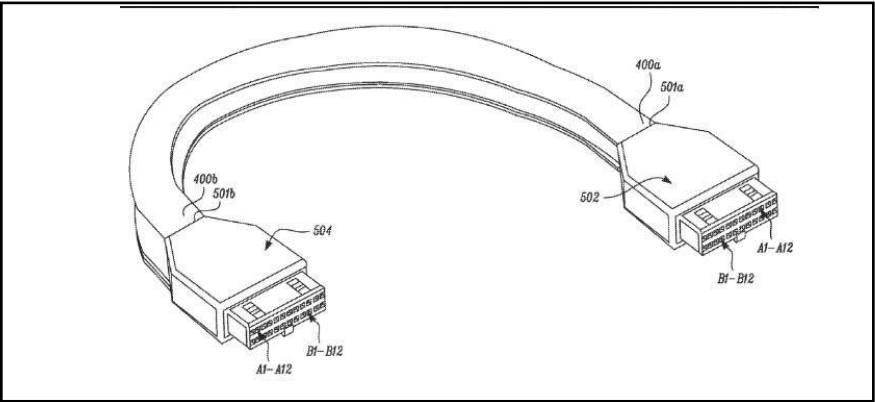

Figure 3. Connector termination process
- Creating custom stiff extrusions with parallel wire/conductors. The majority are optimized for required impedance and shielding for data. Some have conductor cross sections for power (Fig. 3).